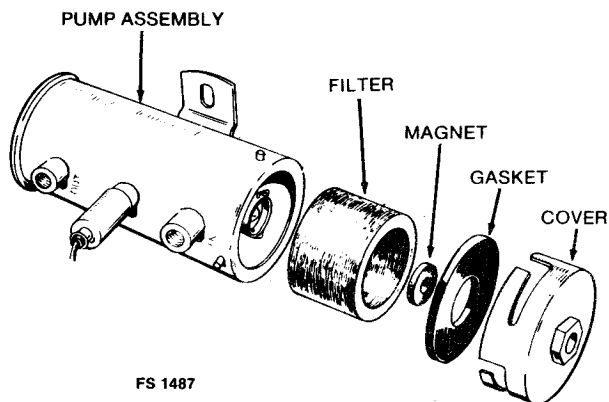

FIGURE 21. REMOVAL OF MAGNET AND FILTER
2. Remove the filter, magnet and cover gasket (Figure 21).